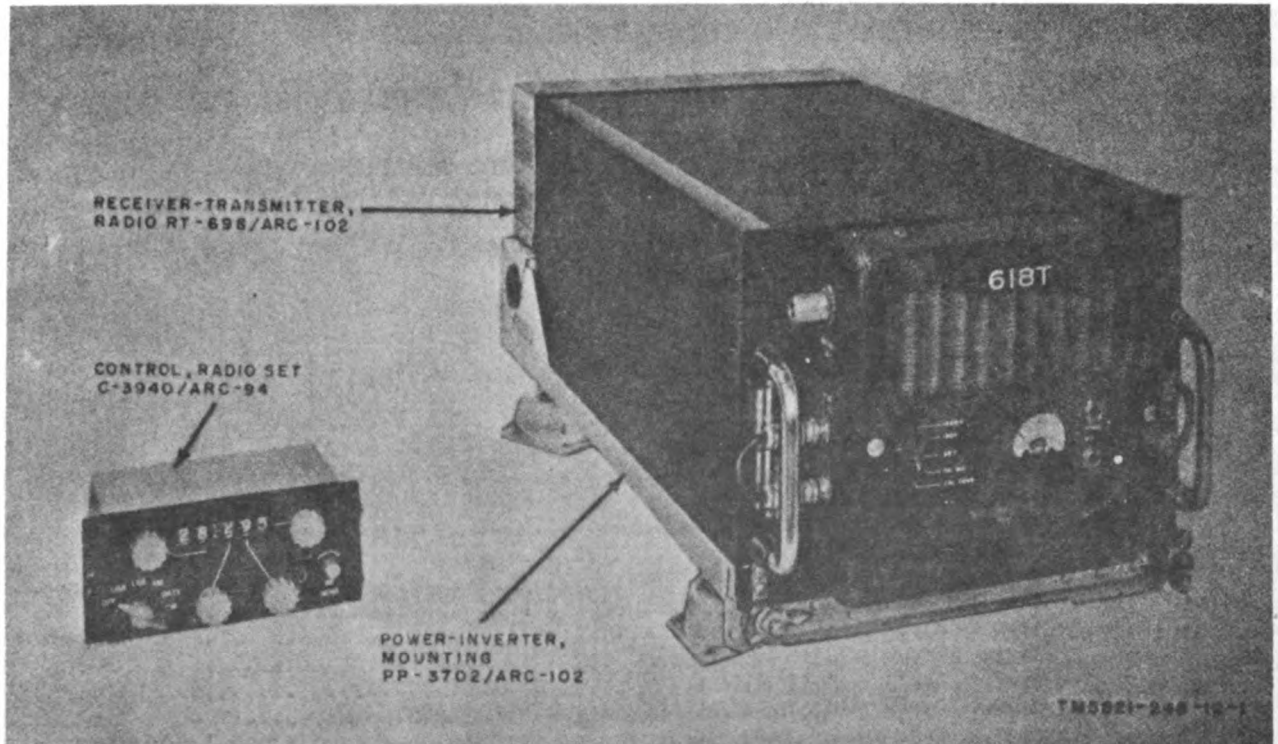

Figure 1. Radio Set AN/ARC-102.
This manual describes Radio Set AN/ARC-102 (fig. 1) and covers its operation and second echelon maintenance. It includes operation, cleaning and inspection of the equipment, and replacement of parts available to second echelon maintenance.
4. Purpose and Use (fig. 1)
6. Components of Radio Set AN/ARC-102 (fig. 1)
a. The radio set (fig. 1) consists of a receiver-transmitter, a control unit, and a mounting. The interconnecting cables to which the components are connected are supplied as part of the aircraft in which the equipment is installed.